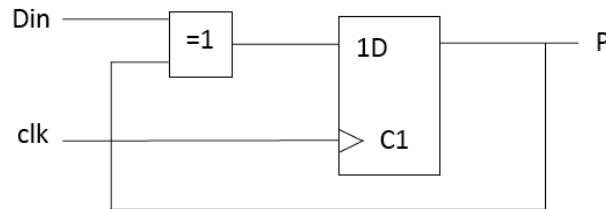

Figure 1.1
1. (a) *Figure 1.1* shows a circuit to evaluate the parity P of a serial data stream D_{in} . Write a Verilog description of this circuit.